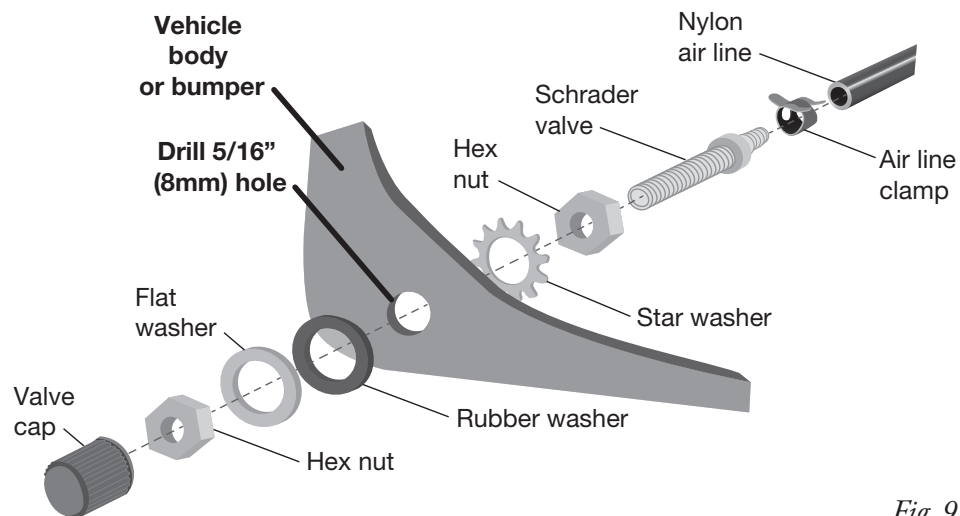

Fig. 9
6. Drill a 5/16" (8mm) hole for the Schrader valve (M) and mount as shown (Fig. 9). Install the air line on the Schrader valve first. The rubber washer (K) serves as an outside weather seal.